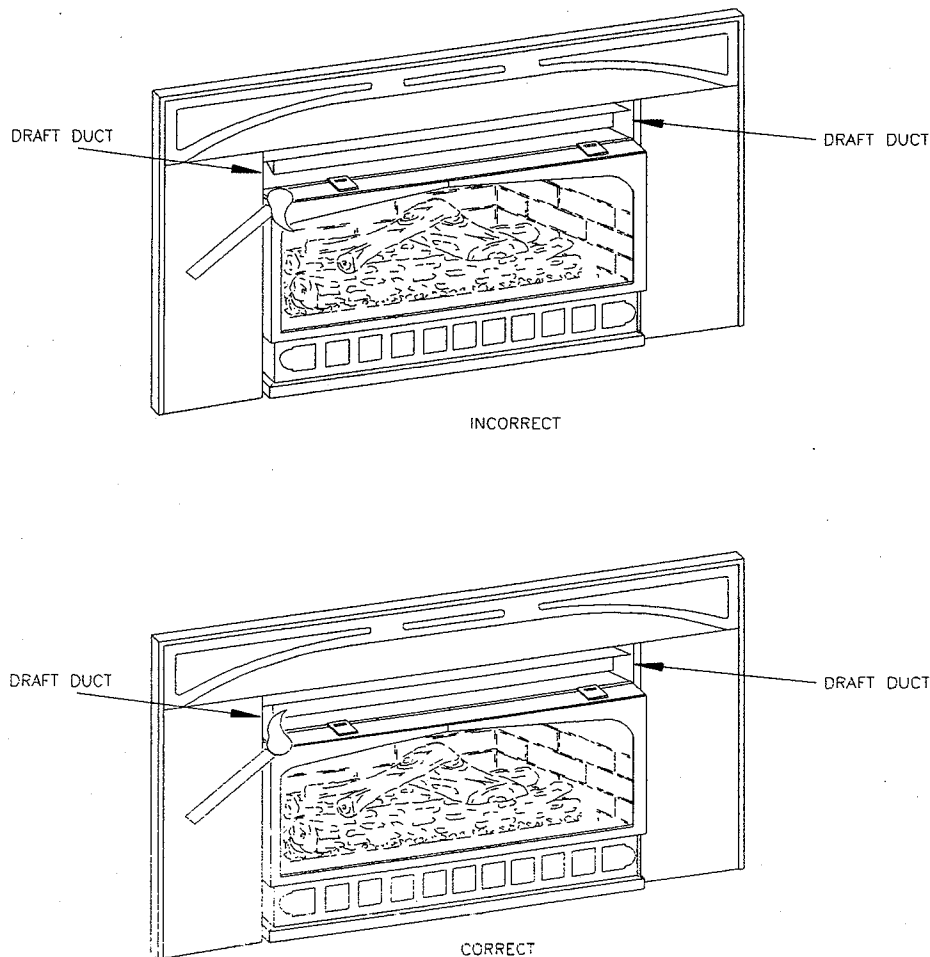

Figure 25
5. After five to ten minutes, insert a match inside a draft duct opening and ensure that the flame wisps and smoke are drawn into the duct at the front corner (see Figure 25).